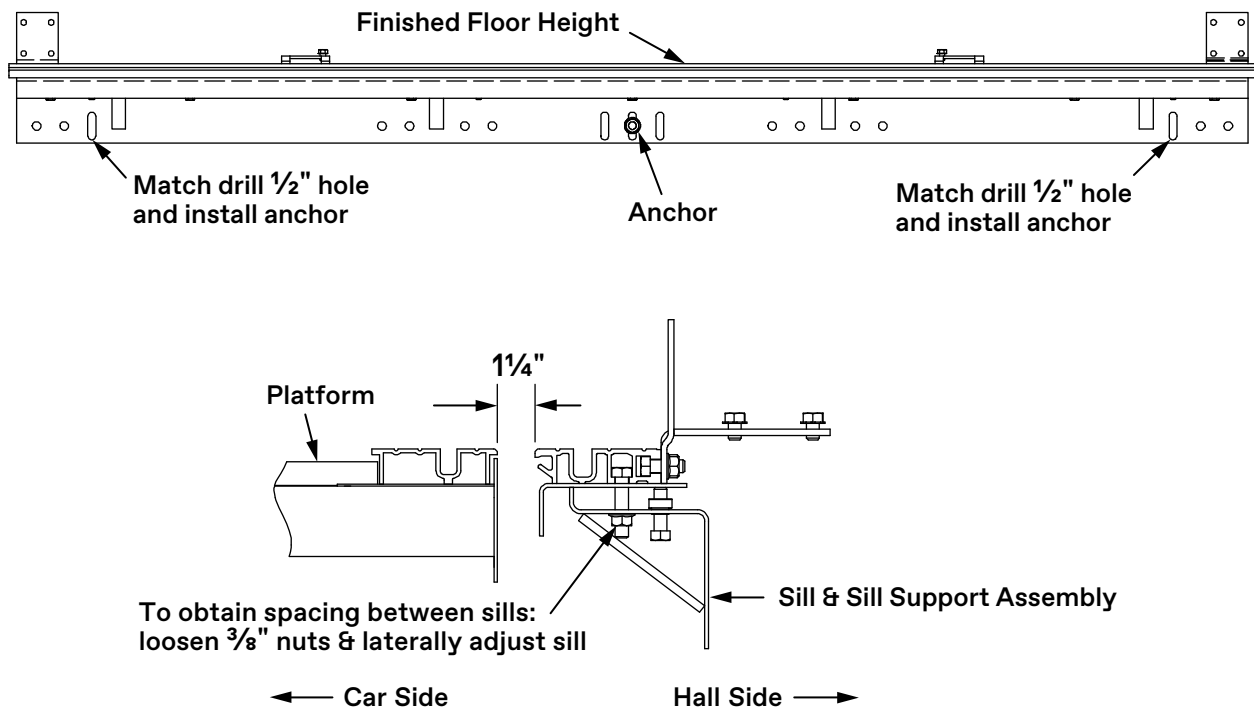

Figure 38 - Sill and Sill Support Mounting
1. Slide the middle slot of the sill assembly onto the anchor in the wall. Screw the nut onto the anchor, and hand tighten. See Figure 38.